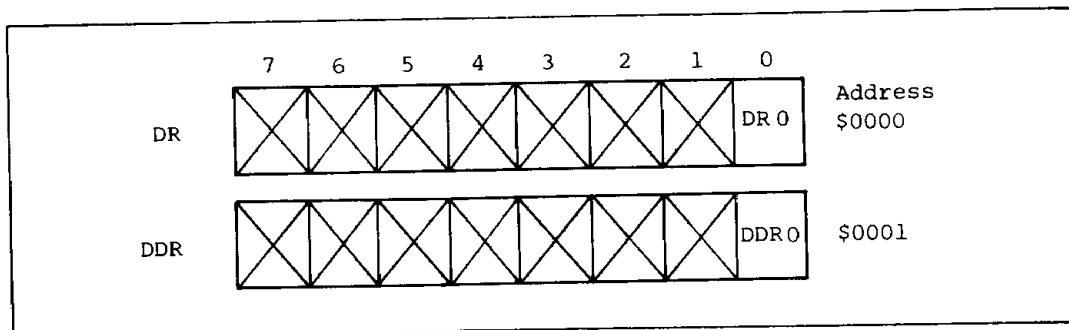

Figure 3-10 I/O Register
The I/O pin includes a data register (DR) which latches output data, and a data direction register (DDR) which designates input and output direction. Their configurations are shown in Figure 3-10.